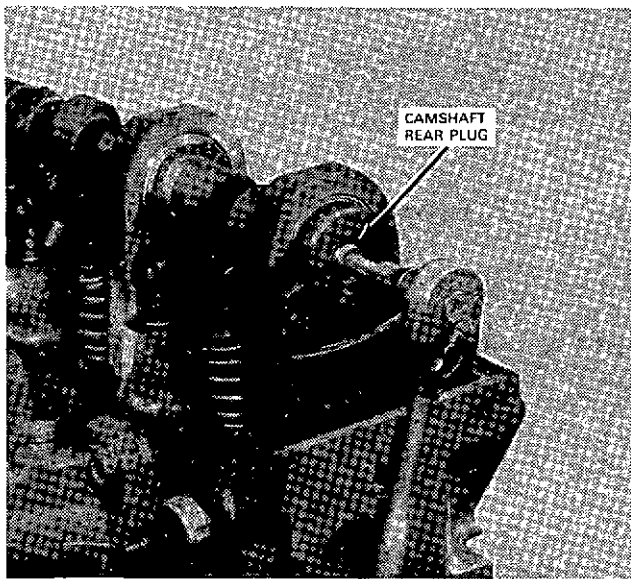

FIG. 39 Removing Rear Camshaft Plug
7. If cleaning or changing the camshaft, remove and replace the rear camshaft plug (Fig. 39) into the new camshaft, or low oil pressure will result. Also use sealer or teflon tape on the front sprocket bolt.